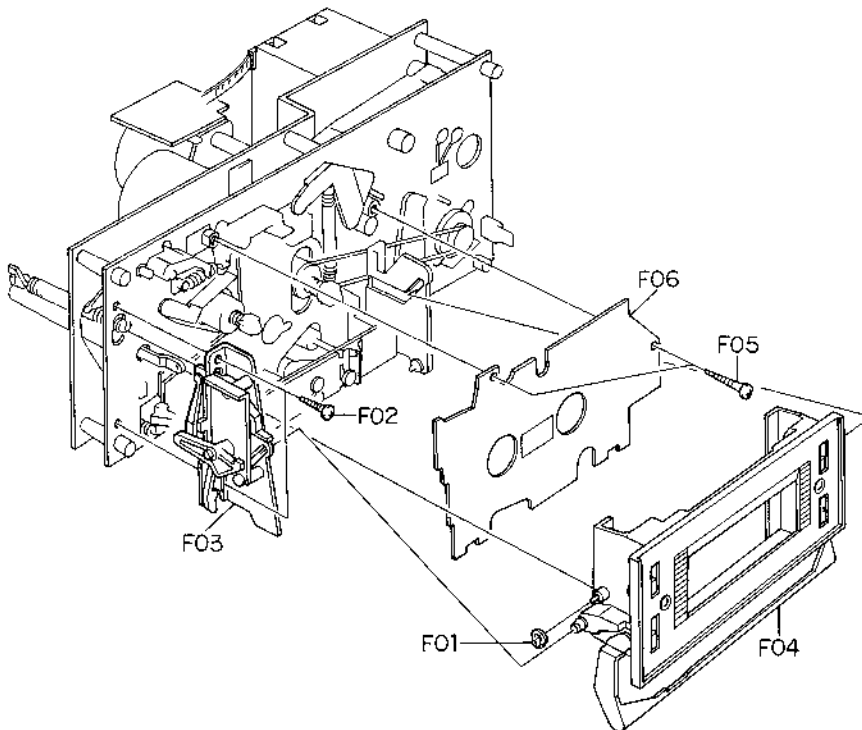

Fig. 2.7
Refer to Fig. 2.7.
- (1) Refer to Fig. 2.7. Remove Cassette Case Ass'y referring to item 2.21.
- (2) Remove F01, then disassemble F02 (Head Mount Base Ass'y).